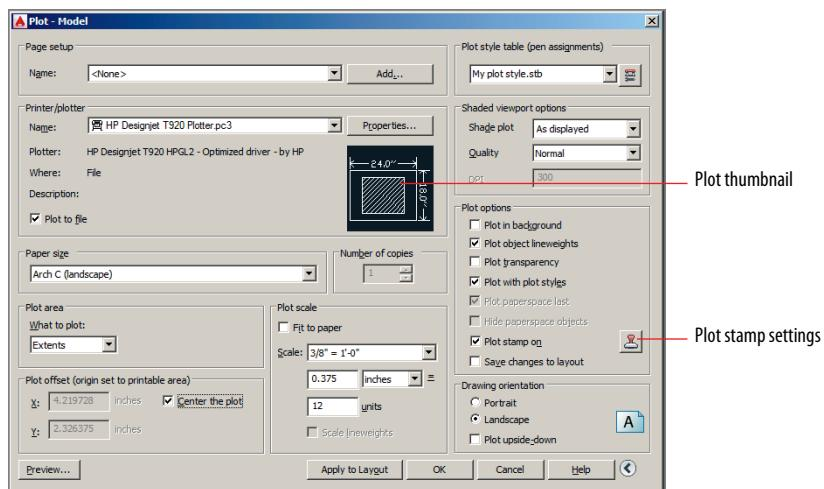
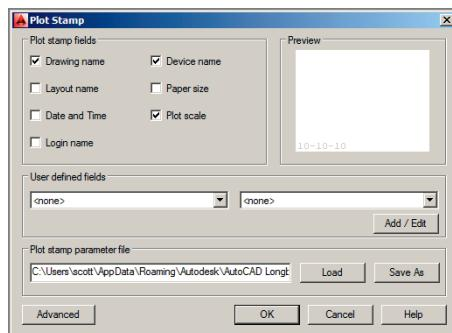

FIGURE 14.15 Configuring the Plot dialog box for output
FIGURE 14.16 Configuring the Plot Stamp feature
Offset area, deselect Fit To Paper in the Plot Scale area, and select $3/8" = 1'-0"$ from the Scale drop-down menu. Click the More Options button to expand the dialog box. Select *My plot style.stb* in the Plot Style Table area. Select Plot Stamp On in the Plot Options area (see Figure 14.15).
- Check Plot Stamp On and then click the Plot Stamp Settings button, as shown in Figure 14.15. Select Drawing Name, Device Name, and Plot Scale in the Plot Stamp dialog box that appears (see Figure 14.16). Click OK.